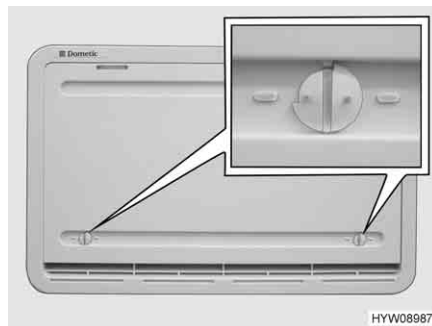

Fig. 156 Winter cover
If the refrigerator is to be operated at low external temperatures, the manufacturer recommends the use of a winter cover (Fig. 156) for the refrigerator ventilation grills.
- Open both locks (Fig. 156) (groove in horizontal position).